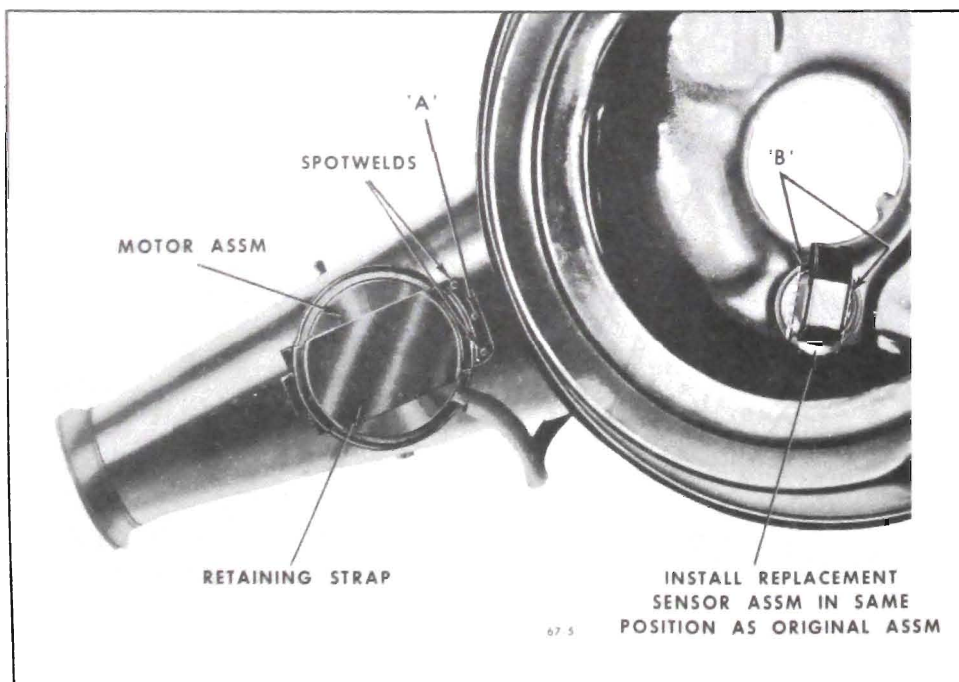

Figure 67-5 - Replacing Vacuum Motor Assembly
3. Remove vacuum motor retainer strap. See Figure 67-5.
5. Drill a 7/64" hole in snorkel tube at point "A" as shown in Figure 67-5.
5. Install sensor retaining clip, meanwhile supporting sensor at "B" around the outside rim to prevent damage to the temperature sensing spring. See Figure 67-5.